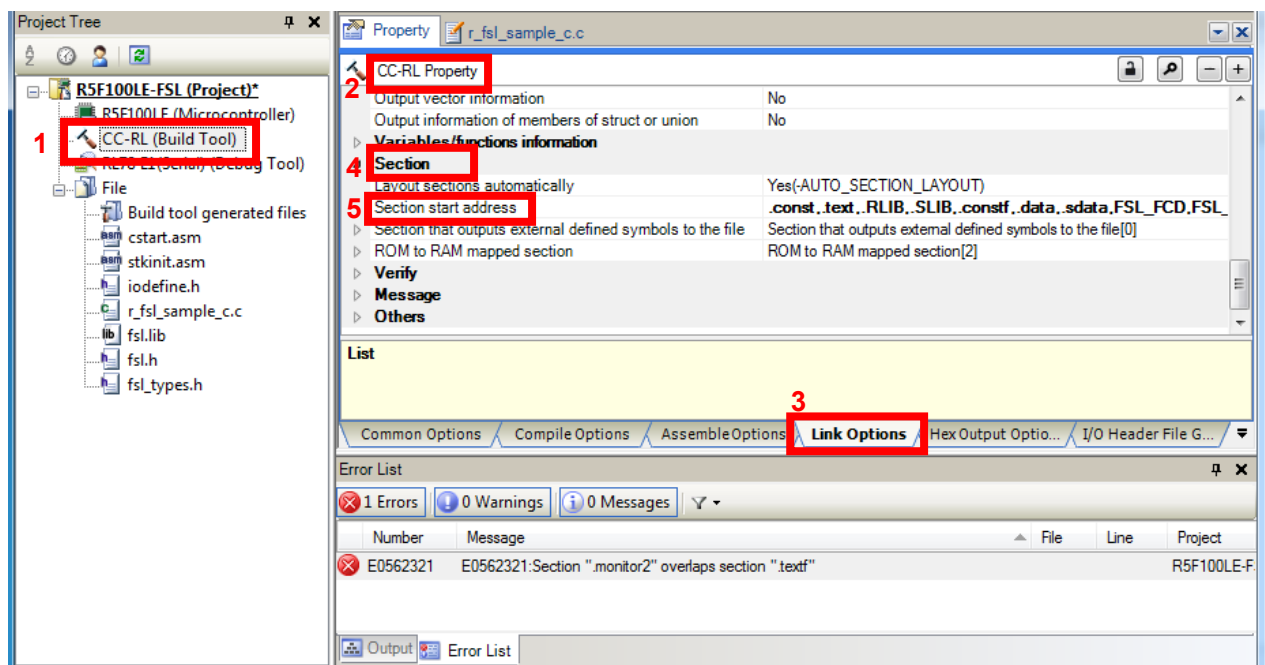

Figure 7-22. Modifying the Section Allocation
This error occurs when the section for the monitor area (OCDROM) used by the on-chip debugging function cannot be allocated. Therefore, to avoid this error, right click the CC-RL (Build Tool) node (1) in the CS+ Project Tree window, select Property to open the CC-RL Property panel (2), and select the Link Options tab (3). In the Section category (4), modify the setting for Section start address (5) so that no other areas overlap the area where the section for the on-chip debugger monitor is allocated (monitor2: the initial address range is 0xFE00 to 0xFFFF in R5F100LE). (See Figure 7-22.)